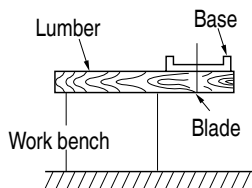

Fig. 18
- (1) Position the unit at a right angle to the surface (0-degree incline).
- (2) Holding the chip cover's guide section open by hand, push into the main unit.
- (3) Insert the chip cover's catches into the main unit's slots.
- (4) When detaching, spread the catches of the chip cover and draw them out from the main unit's slots.
11. Prepare a work bench (Fig. 18)